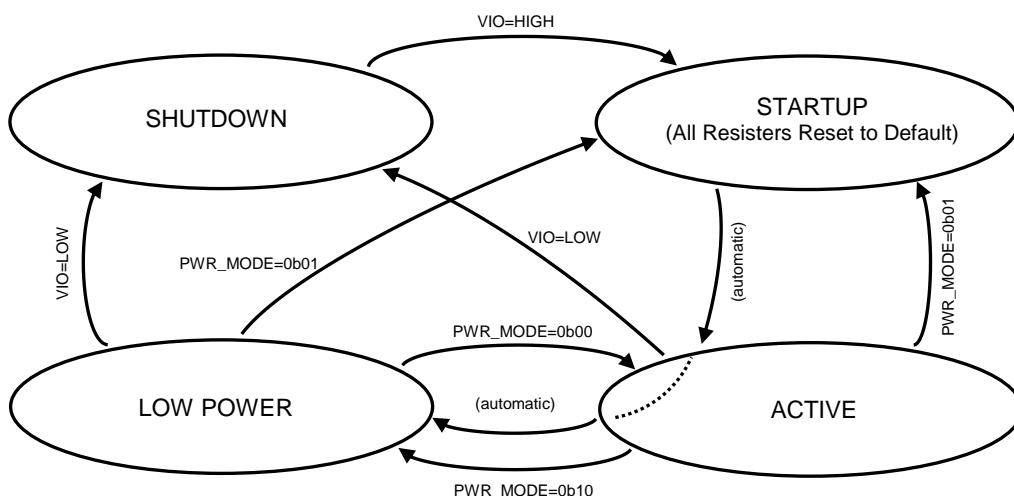

Figure 4. Slave State Diagram
- Figure 4, 5 and Table4 describes the RMASMF496ATF03 has four operating states.
The RMASMF496ATF03 has four operating states, which are ACTIVE, SHUTDOWN, STARTUP and LOW POWER. The transitions between these four states are set writing the PWR_MODE register or VIO as shown in Figure 4. The internal circuit operations in each operating state are shown in Table 4.